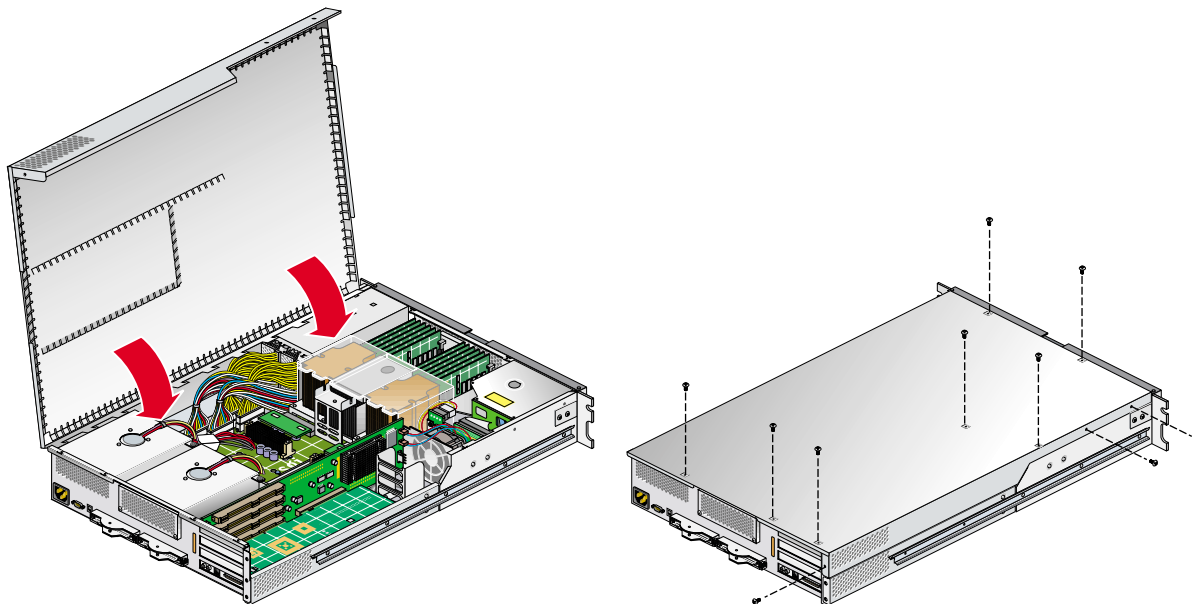

Figure 3-17 Close and Screw Down Cover
16. Close the hinged cover on the system and screw in the ten Phillips screws to secure the cover, as shown in Figure 3-17.
6. Close the hinged cover on the graphics module and screw in the ten Phillips screws to secure the cover, (reference Figure 3-17 for an example).